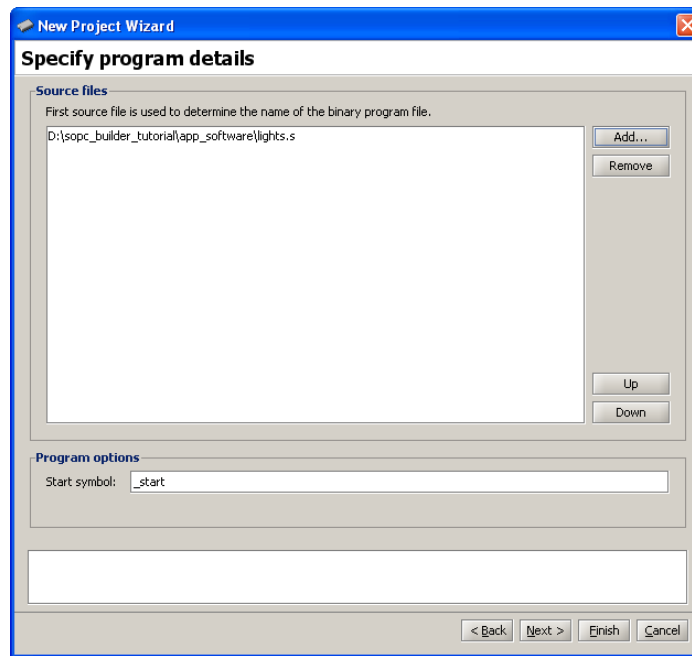

Figure 24. Specify the binary file to use.
7. Select **Assembly Program** as the program type from the drop down menu and click **Next >**, leading to Figure 24.
8. Click **Add...** to display a file selection window and choose the *lights.s* file and click **select**. Note that this file is in the directory *sopc_builder_tutorial\app_software*. Upon returning to the window in Figure 24, click **Next >**.